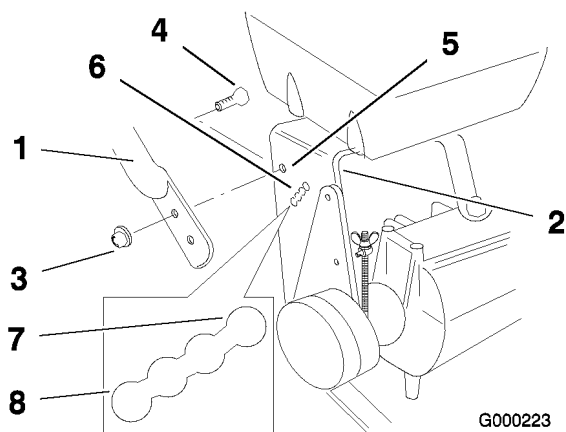

Figure 5
1. Align handle with upper mounting holes in rear frame (Figure 5).
2. Secure the handle at each upper mounting hole with a flange bolt (3/8 x 1 inch) and flange nut (Figure 5).
3. Select the low position for the lower mounting hole (Figure 5).
4. Secure the handle at each lower mounting hole with a flange bolt (3/8 x 1 inch) and flange nut (Figure 5).